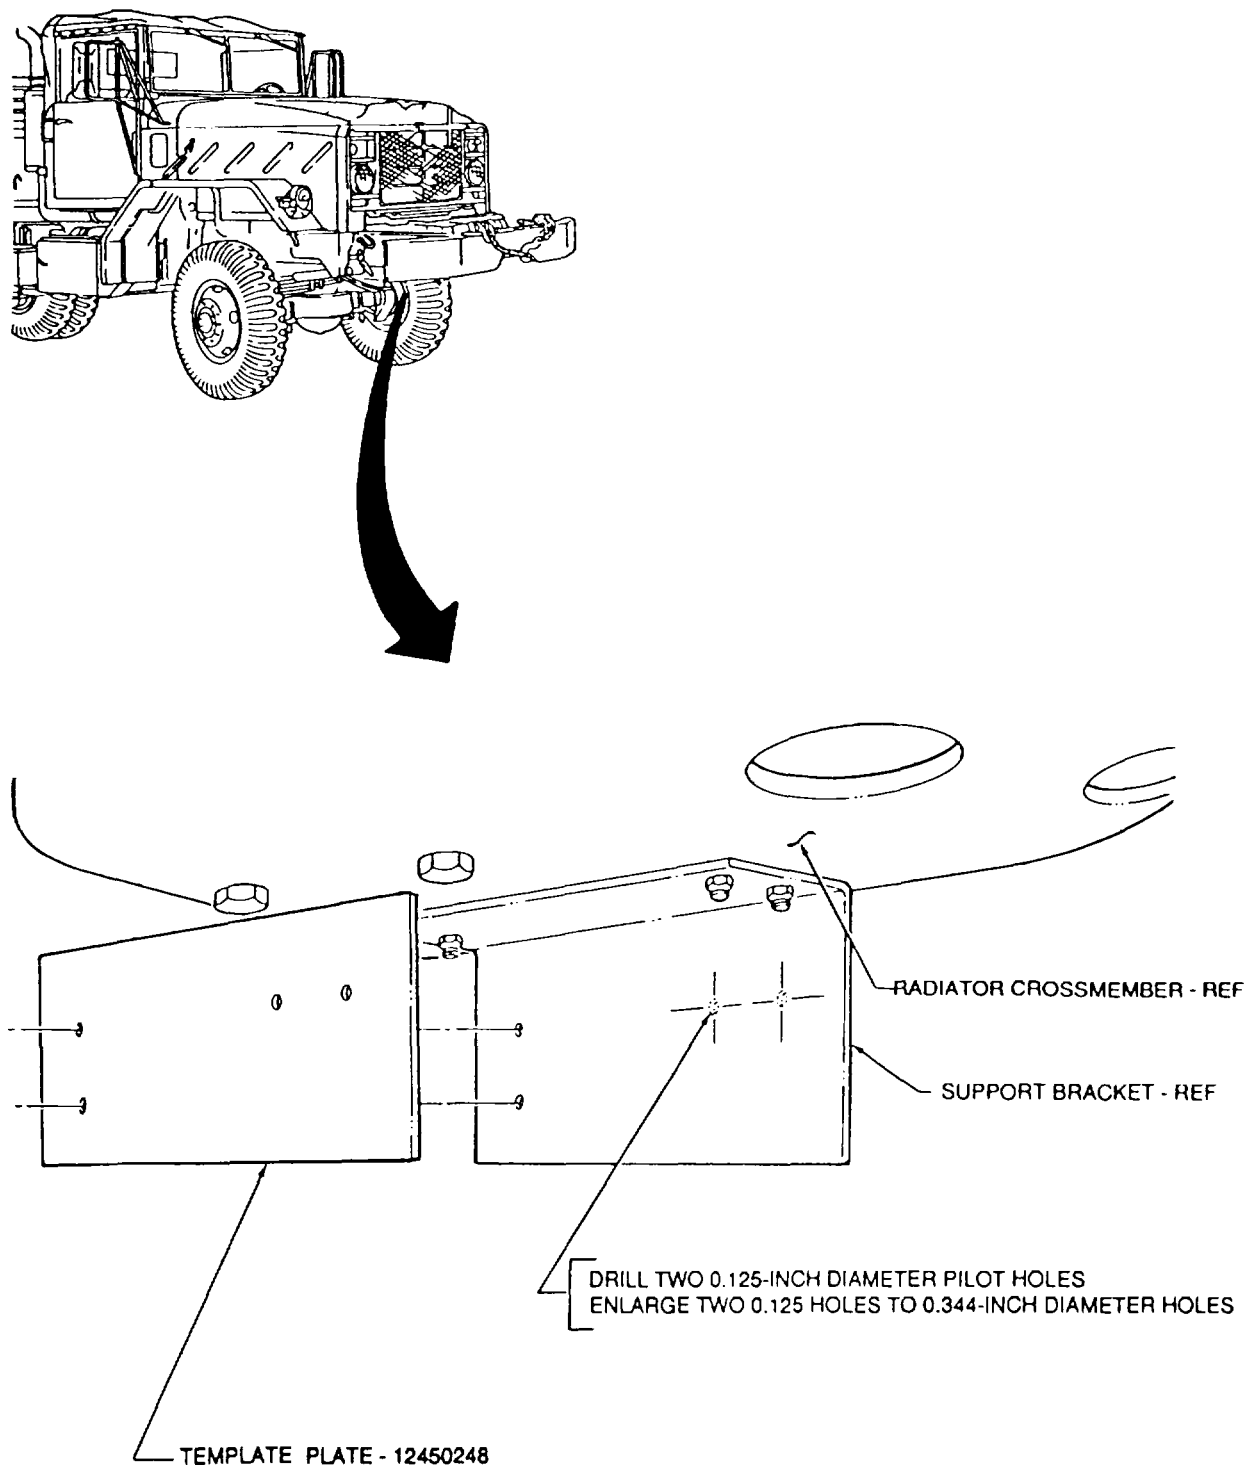

FIGURE 1
- (1) Remove battery ground cable. (Refer to TM 9-2320-272-20.)
- (2) Drain air reservoirs. (Refer to TM 9-2320-272-10.)
- (3) Remove front limiting valve. (Refer to TM 9-2320-272-20.)
(4) Using 12450248 template plate, locate, mark, and drill two 0.125-inch diameter pilot holes in support bracket as shown in figure 1.
(5) Enlarge two 0.125-inch diameter pilot holes drilled in step (4) to 0.344-inch diameter holes as shown in figure 1.